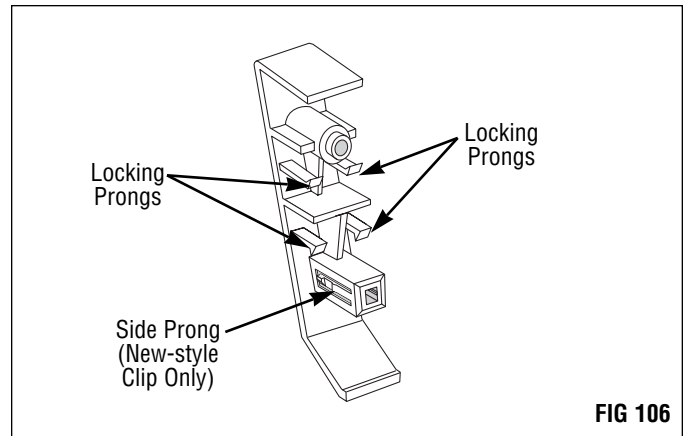

FIG 106
2. Inspect the cartridge clip (FIG 106).